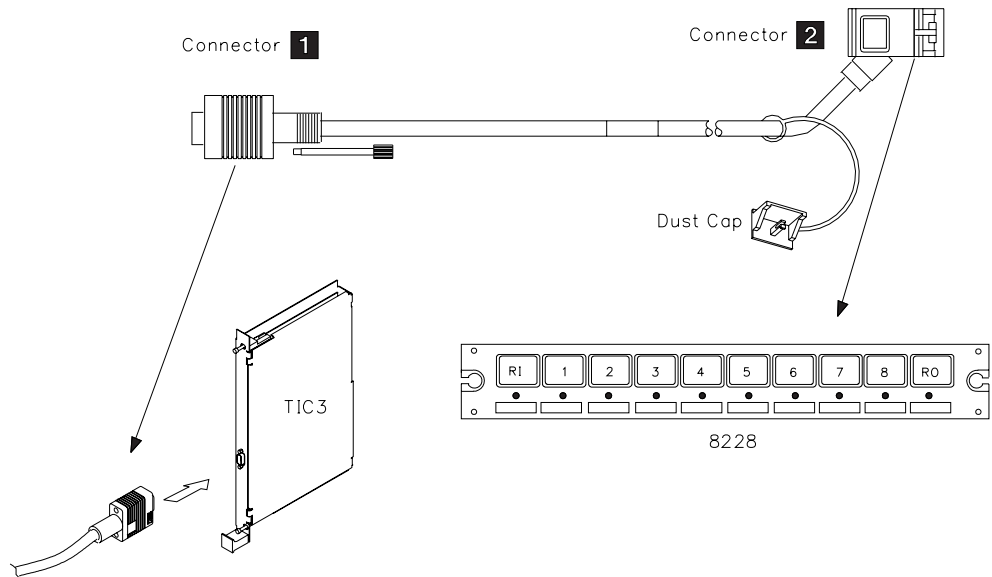

Figure 2-25. Connection of the 8228 to a TIC3
- e. \_\_\_\_ Plug connector **2** to one of the 8228 LAN adapter plugs 1 to 8 (Refer to Figure 2-25 below).